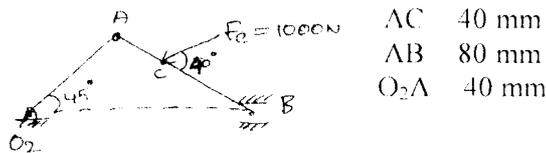

Fig. Q2 (a)
- 2 a. Determine the required input torque on the Crank of a slider mechanism as shown in Fig. Q2 (a) for static equilibrium. (10 Marks)